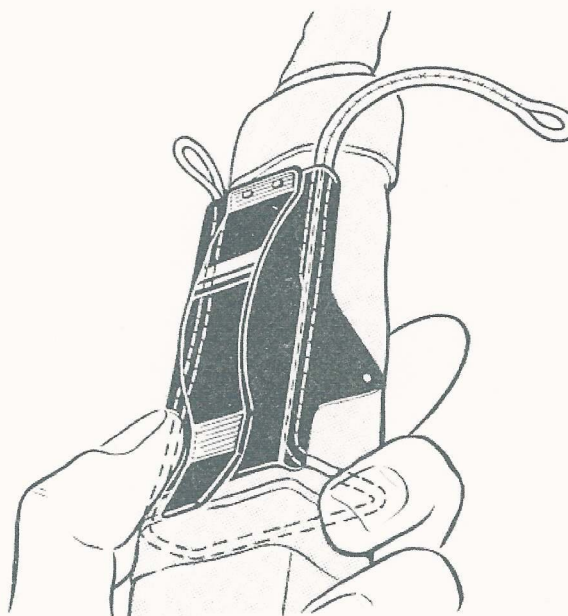

Fig. 5. Connecting the beacon to the battery switch pin: second stage
(3) Pass the cord round the beacon and again thread it under the clip. Position it as shown in fig. 5.